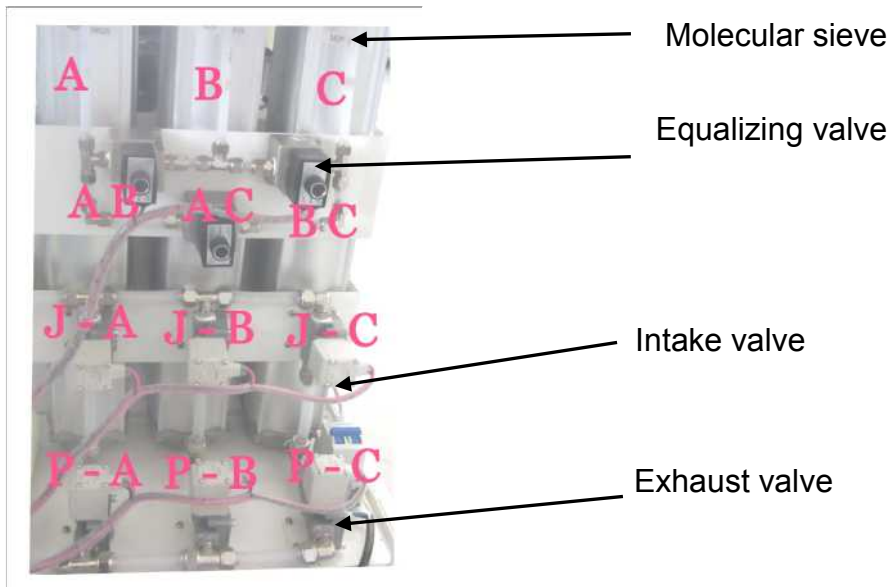
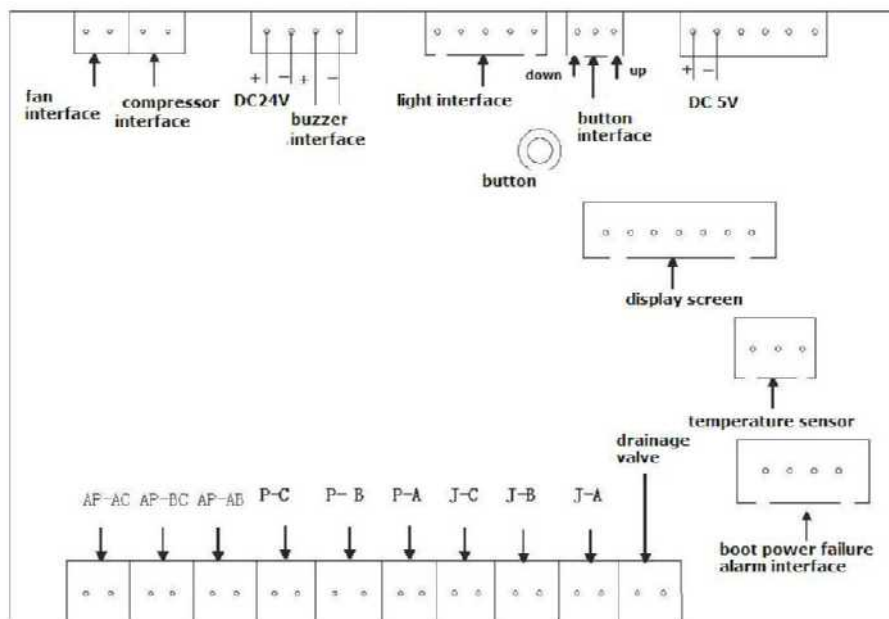

Figure 9
Figure 11
- 2、unplug the connecting tube between valves , zeolite sieve and oxygen tank. Unplug the connecting tube between Exhaust valve and Intake valve using #19 wrench; Equalizing valve (#13 wrench); Using #13 wrench,unscrew the screws between molecular sieve and oxygen tank ,unplug the tube, take the retaining screws down in the holder of Intake valve and equalizing valve, remove the holder and then unscrew the retaining screws between the molecular sieve and cabinet using Phillips screwdriver. The molecular sieve was taken off. (See figure 9)
6.1 Circuit structure and all joints diagram, As show in figure11, AC,BC,AB is equalizing valve interface, P-C、 P-B、 P-A is exhaust valve interface,J-A、 J-B、 J-C is inlet valve interface, each valve location as show in figure 9.
3. After select the item (T1---T12、F), push button +- to plus and minus for this item, as show on figure11.